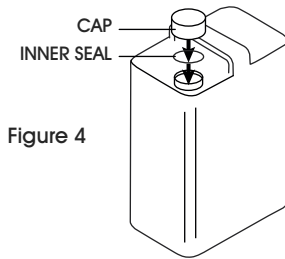

Figure 4
5. Place inner seals inside openings and tap them down using a rubber mallet until they are securely in place. Seal cans by threading caps onto openings with 17-26 in-lbs of torque. (See Figure 4)